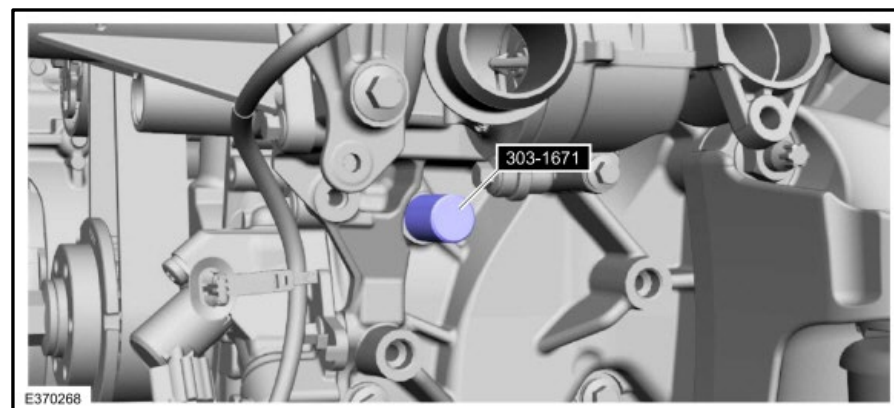

Figure 23
- Q. Remove Locking Crankshaft Pin Special Service Tool: 303-1671. Figure 23.